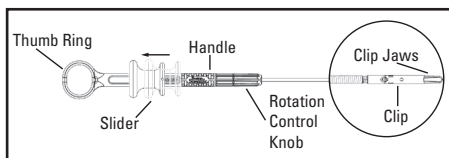

Figure 4. Resolution 360 Clip Closed
- To close the Resolution 360™ Clip on the desired location, move the slider proximally until tactile resistance is felt in the handle, as shown in Figure 4. Clip position may now be assessed prior to deployment.